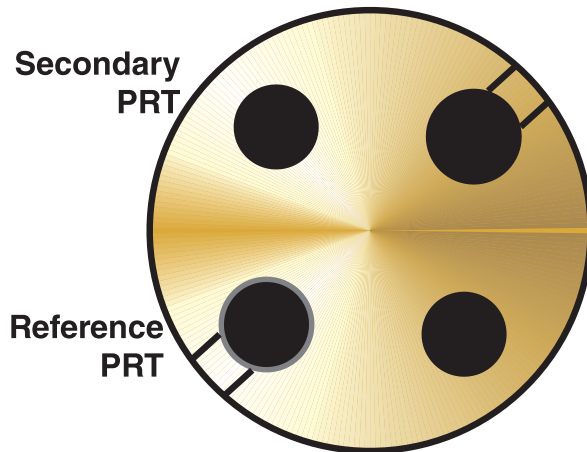

Figure 20 PRT and insert orientation during heat source calibration.
The calibration insert (Hart Model 914x-INSG) must be oriented as indicated in Figure 20 on this page. The Axial Gradient Test requires the use of one reference standard, 1/4-inch PRT, and a secondary PRT with a sensor length 5 mm or less. The reference standard is inserted the full-depth of the well in the position indicated in Figure 20. The secondary PRT is inserted the full-depth of the well in the position indicated in Figure 20.
2. Insert the 5 mm PRT the full –depth (0 mm) as indicated in Figure 20.
The Stability Test requires the use of one reference standard – primary reference standard – which is inserted into a full-depth hole in the calibration insert. The reference standard should be oriented with the calibration insert as indicated in Figure 20 on previous page.